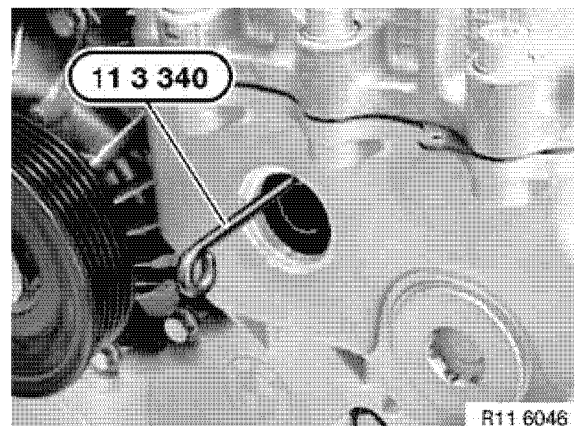

Figure 5-94
10. While holding the exhaust camshaft rotated, secure the tensioner in place using special tool OEM No. 11 3 340 (Figure 5-94).